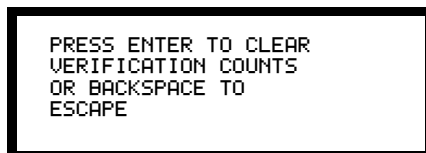

Figure 90 Verification Count Clear Screen
The Clear Verification Count screen (Figure 90) lets you clear all verification counters for detectors selected for Alarm Verification. To clear all verification counters, follow these steps:
1. From the Status Change screen (Figure 84 on page 93), press the **3** key to display the Verification Count Clear screen as shown in Figure 90: